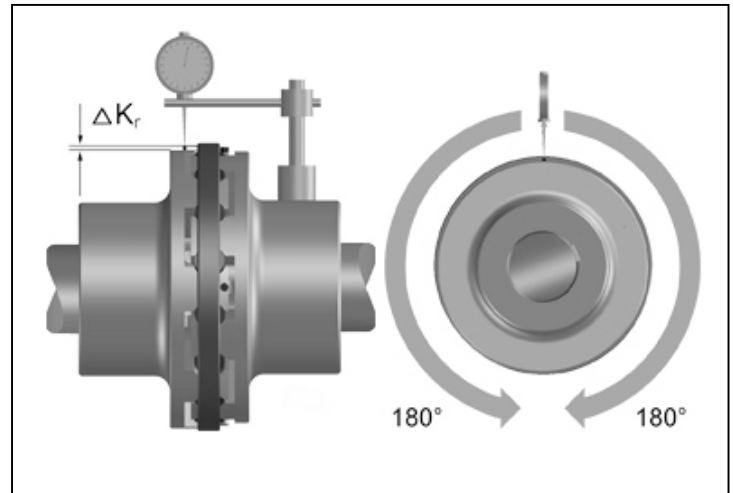

Fig. 7
- Measure one complete revolution (360°). Determine the largest deviation K_{r1} and the smallest deviation K_{r2} (Fig. 7).